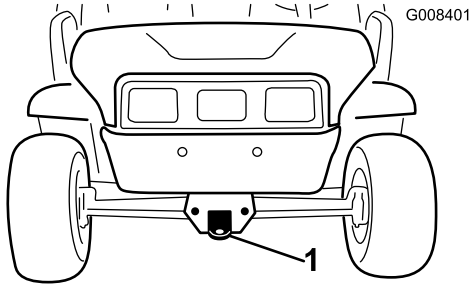
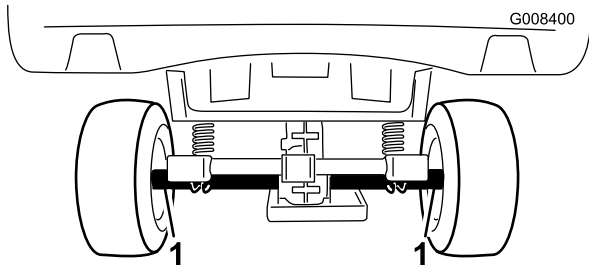

Figure 20
Figure 21
Use a trailer to move the machine long distances. Make sure that the machine is secured to the trailer. Refer to Figure 20 and Figure 21 for the location of the tie-down points.
2. Affix a tow line to the tongue at the front of the machine's frame (Figure 20).